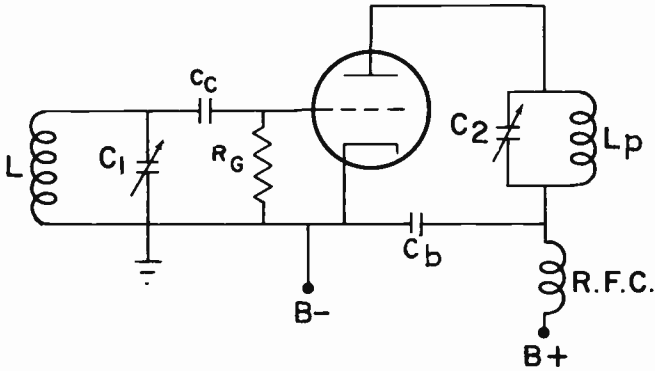

FIG. 12-11. A TUNED-PLATE TUNED-GRID SERIES FED OSCILLATOR.
**TUNED PLATE - TUNED GRID OSCILLATOR.** Fig. 12-11 is the circuit of a series-fed, TUNED PLATE - TUNED GRID OSCILLATOR, with the plate and grid circuits tuned separately. The plate coil,  $L_p$ , and the grid coil,  $L$ , are not magnetically coupled to each other. Energy is transferred from the plate circuit to the grid circuit through the internal grid-to-plate capacitance of the triode. Since the plate and grid, in effect, are two conductors separated by an insulator (dielectric), we have a "capacitor" existing between the grid and plate. This capacitance is known as the grid-to-plate interelectrode capacitance ( $C_{g-p}$ ). Both the plate and grid circuits are tuned to approximately the same frequency.
3 The Element 3 examination contains a number of questions on troubleshooting. The prospective radio operator must be able to analyze circuit troubles and know the symptoms that will result when these troubles occur. The questions and answers given below, as well as those given at the end of Lesson 14, should give the student an understanding of the basic troubleshooting that he will be responsible for on the examination. The following questions and answers are based on Fig. 12-11.